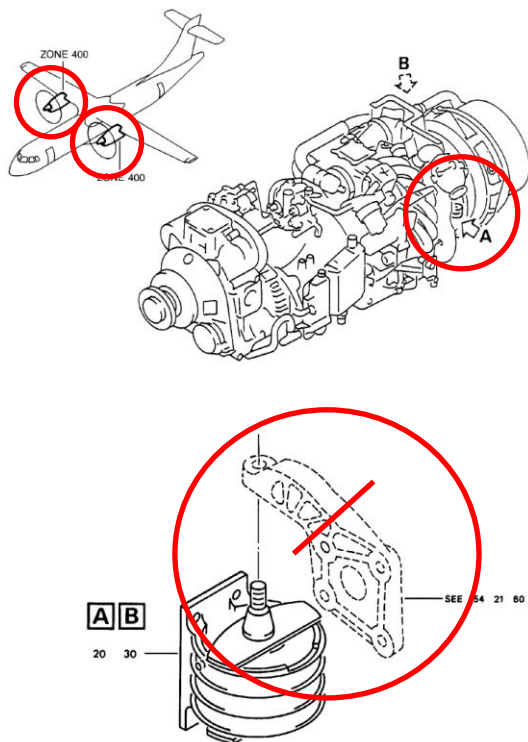
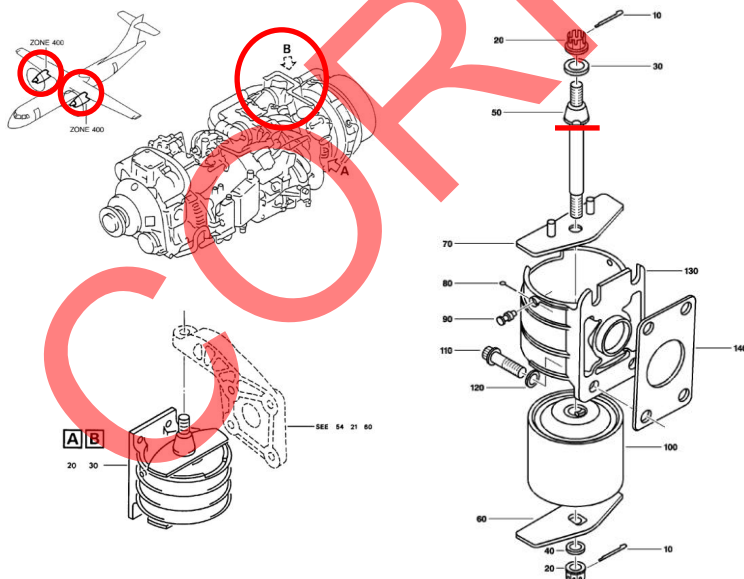

Figure 1: Shock mount pick-up fitting potential failure
Figure 2: Shock mount cone bolt potential failure
<p>Required Action(s) and Compliance Time(s):</p>	<p>Required as indicated, unless already accomplished</p> <p>(1) Within 6 months after the effective date of this AD, accomplish the following actions concurrently:</p> <p>(1.1) Identify the s/n of the P/N S54210394200 (Barry Control P/N 94423-05) LH and RH shock mount pick-up fittings installed on both engine nacelles. Appendix 2 of this AD identifies the fitting P/N and s/n locations.</p> <p>A review of maintenance records is acceptable to determine the s/n of the LH and RH shock mount pick-up fitting, provided the s/n can be conclusively identified from this review.</p> <p>(1.2) Visually inspect both LH and RH aft side isolator pick-up fittings on both engines in accordance with the instructions of the applicable Aircraft Maintenance Manual (AMM) Job Instruction Card (JIC) 541161-DVI-10000 paragraph 004.1. Refer to Appendix 1 Figure 1 of this AD for potential crack location.</p> <p>(1.3) Visually inspect both LH and RH aft shock mount cone bolts on both engines in accordance with the instructions of the applicable AMM JIC 712000-DVI-10000 paragraph 006.3.A. Refer to Appendix 1 Figure 2 of this AD for potential crack location.</p> <p>(2) If, during any inspection as required by paragraphs (1.2) or (1.3) of this AD, cracks are detected, before next flight, replace defective component in accordance with approved ATR instructions.</p> <p>(3) If the s/n of the L/H shock mount pick-up fitting, identified as required by paragraph (1.1) of this AD, is lower than 2451 or unreadable, and no crack has been found, within 6 months after the inspection as required by paragraph (1.2) of this AD, replace LH shock mount pick-up fitting P/N S54210394200 with a serviceable LH shock mount pick-up fitting having a s/nequal to or higher than 2451, in accordance with ATR approved instructions.</p> <p>(4) Within 30 days after the inspections as required by paragraph 1 of this AD, report all findings (including none) to ATR, by using the reporting form provided in Appendix 3 of this AD.</p> <p>(5) From the effective date of this AD, do not install on any aeroplane a LH shock mount pick-up fitting P/N S54210394200, unless it has been determined to have a s/nequal to or higher than 2451.</p>